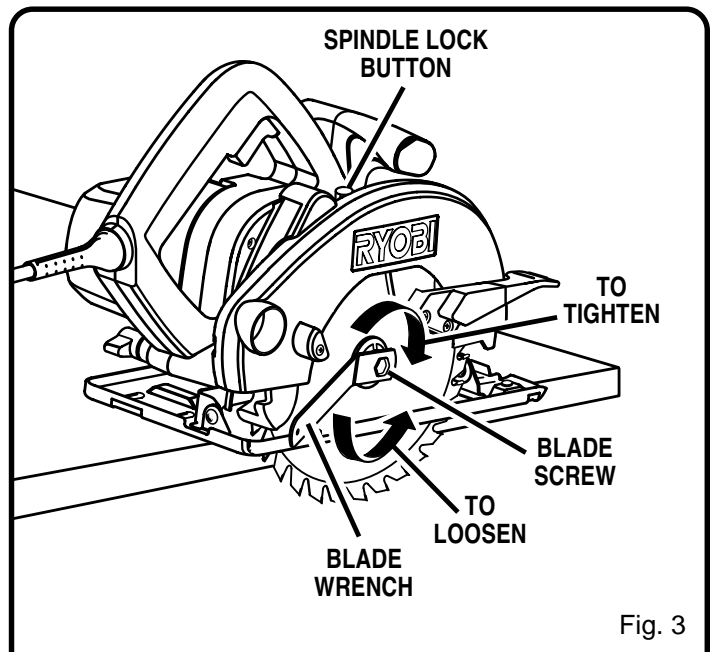

Fig. 3
- Depress spindle lock button to secure blade when turning blade screw. See Figure 3.
See Figure 3.